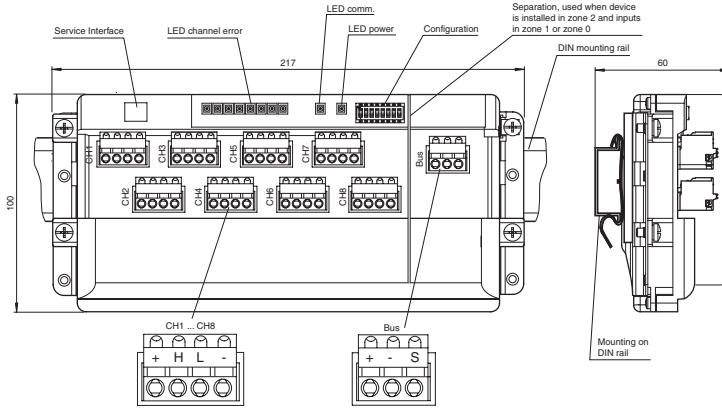

Figure 4.3: Dimensions and pinout of RD0-TI-Ex8.FF.*.*
- The serial interface (see figure 4.3) is for parameterization only. It fulfills the type of protection EEx ia IIC/IIB resp. EEx ib IIC/IIB with the following values: